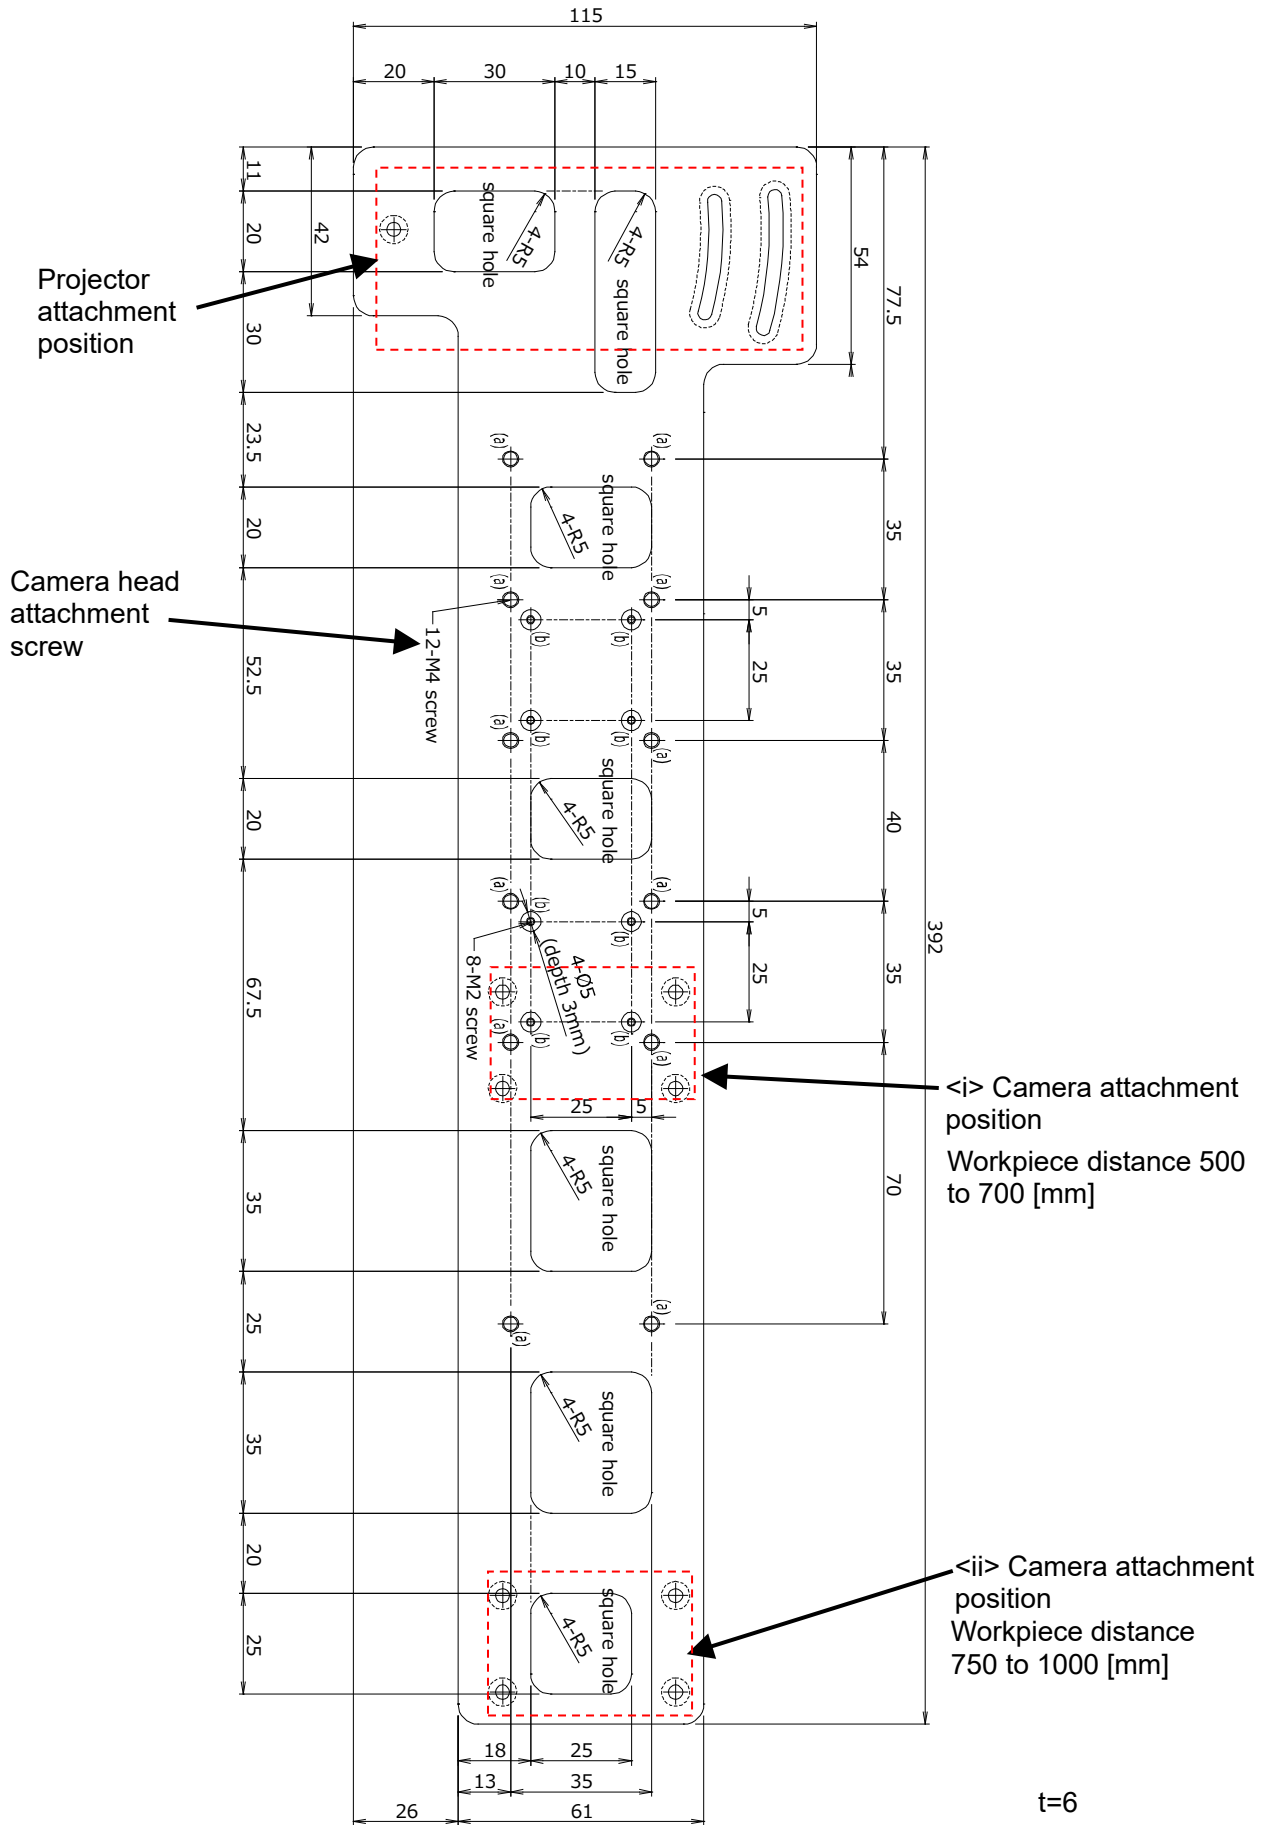

Fig. 3-13 Mounting base (large) (2F-3DVS2-BASE-L)
- Note 4: If camera attached to mounting base (large) (i) (see Fig. 3-13 Mounting base (large))
- Note 5: If camera attached to mounting base (large) (ii) (see Fig. 3-13 Mounting base (large))